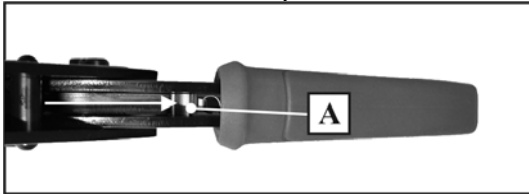

Fig.4.
- ❑ Using small screwdriver or similar tool, push the ratchet relief (A), located inside the moving handle, (Fig. 4.) in direction as shown to unblock the tool, and remove obstruction before continuing with the work.